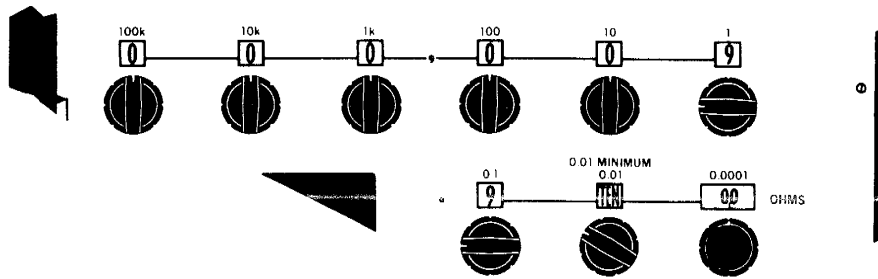

Figure 5-5. Resistance Standard Dial Setting
4. Set the 242D Resistance Standard dials to 9.9, TEN, 00 for ten ohms. Set all other dials on the resistance standard to 0. Reference Figure 5-5.